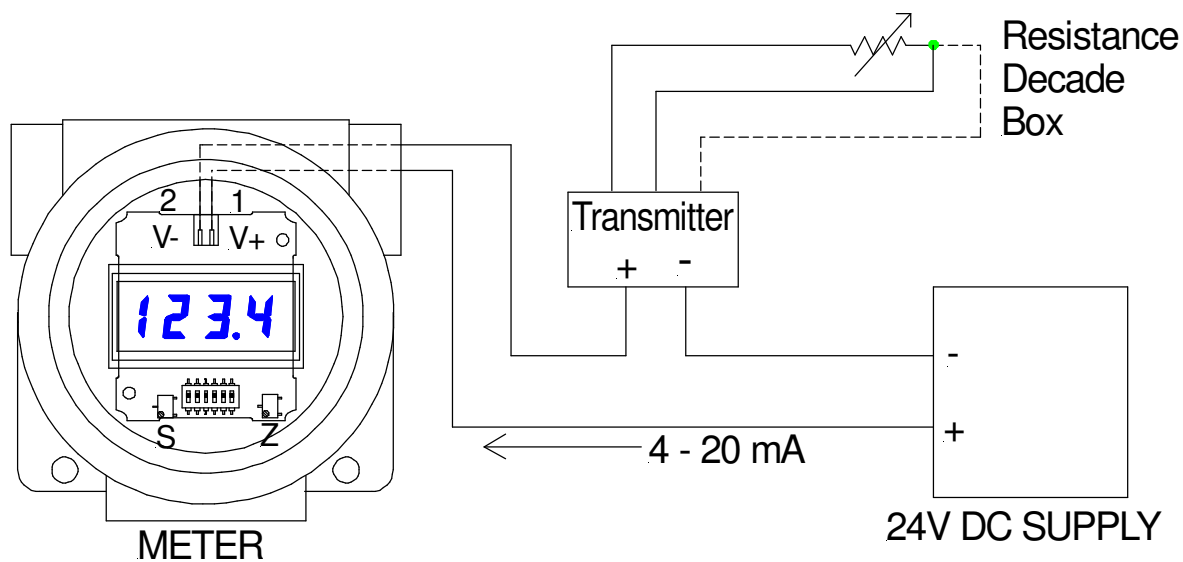

Figure 2
1. Hook-up the equipment as shown in the Figure 2. Unthread the case by rotating it counter clockwise. Remove thumbscrews that secure the blue bezel and remove the bezel. Remove the two nylon 3/8" tall hex standoffs that hold the meter in the housing and lift out the meter. Pull terminal block off from PC board, screw wires onto block, then re-plug block onto board.